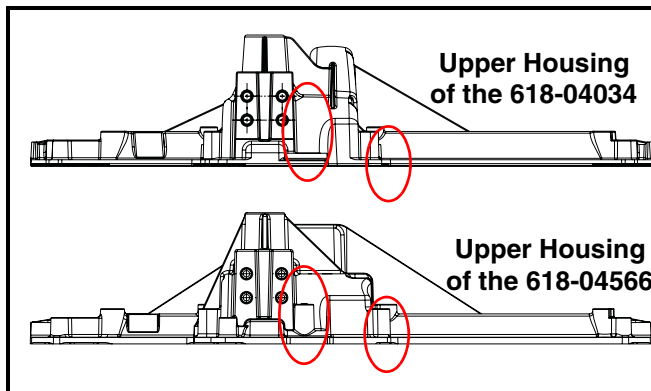

FIGURE 1
The configuration of the upper housing of the new 618-04566 transmission (See Figure 1) will interfere with the cross member torque bracket at two points. This results in the transmission not seating onto the frame at its mounting points.
2. The existing transmission, being replaced, is a single speed 618-04034. See area of concern in Figure 1.